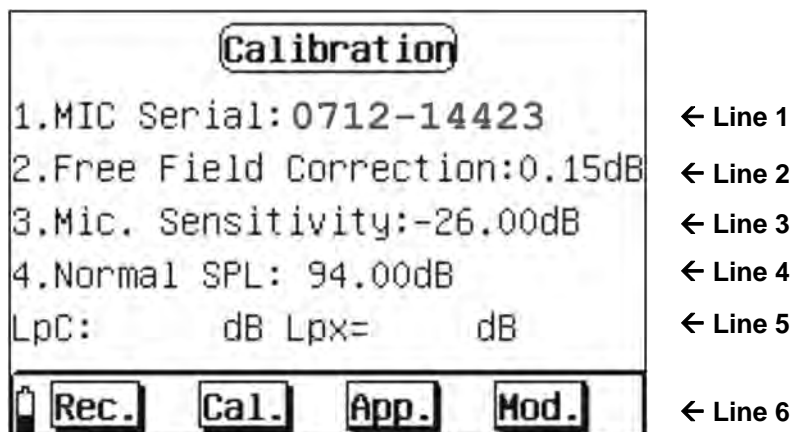

Fig. 35: Initial screen of calibration section
2. Use the “←” or “→” to select the “**Calibrate**” icon and confirm with “↔” to enter the calibration mode (see Fig. 35)
6. Select the “**Cal.**” option on the instrument (see Fig. 35) and press the “←” key to activate calibration, which takes 10s